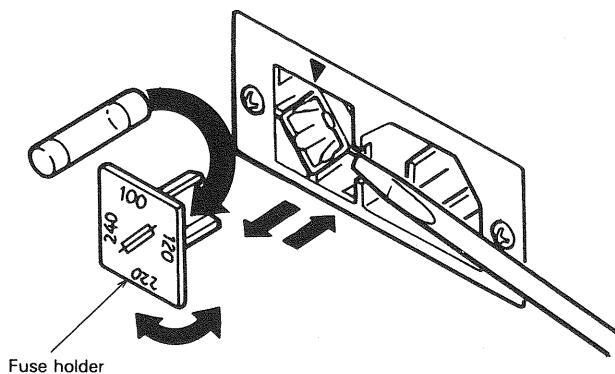

Fig. 62
2. Remove the fuse holder in the rear panel using a standard screwdriver (see Fig. 62).
Remove the fuse holder in the rear panel using a standard screwdriver. Then set the label of your line voltage to the mark ▼ and plug the fuse holder back into place. When changing the supply setting from 100/120 V to 220/240 V, change the 1.2 A fuse for a 0.8 A one. (see Fig. 62)